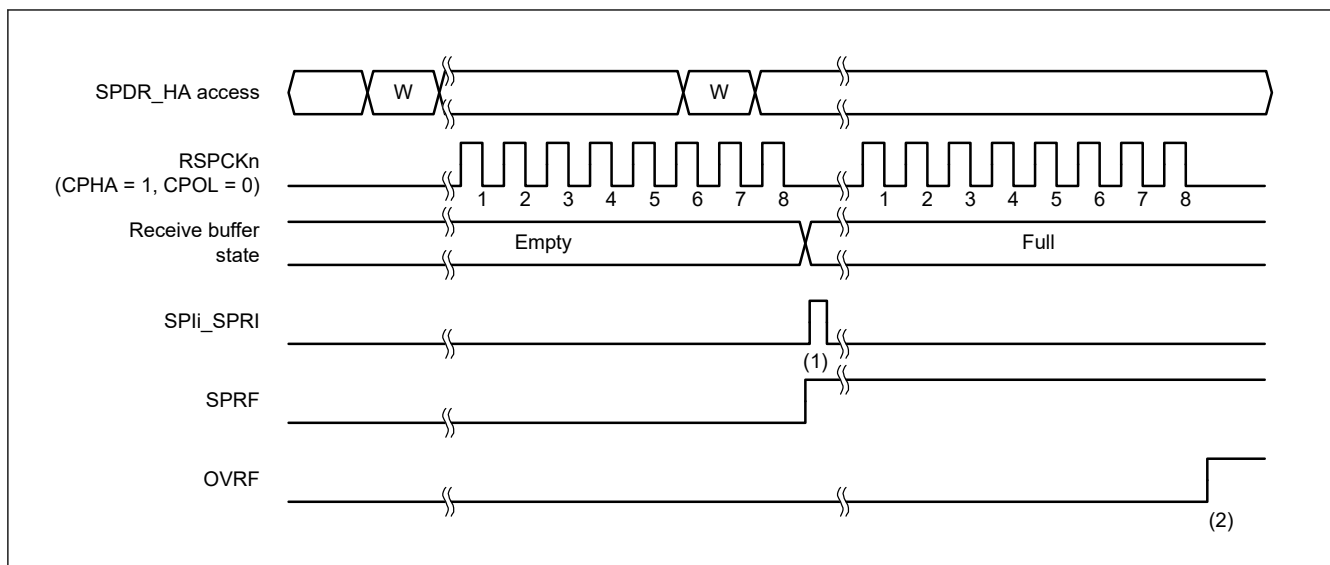
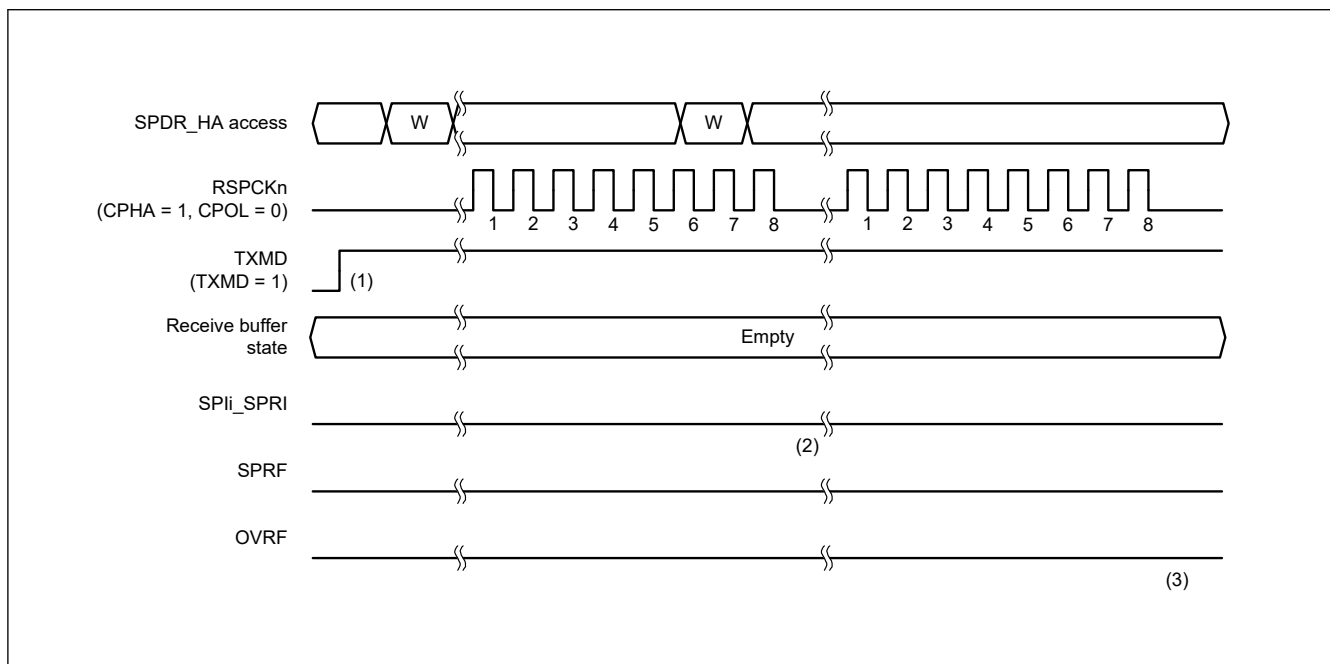
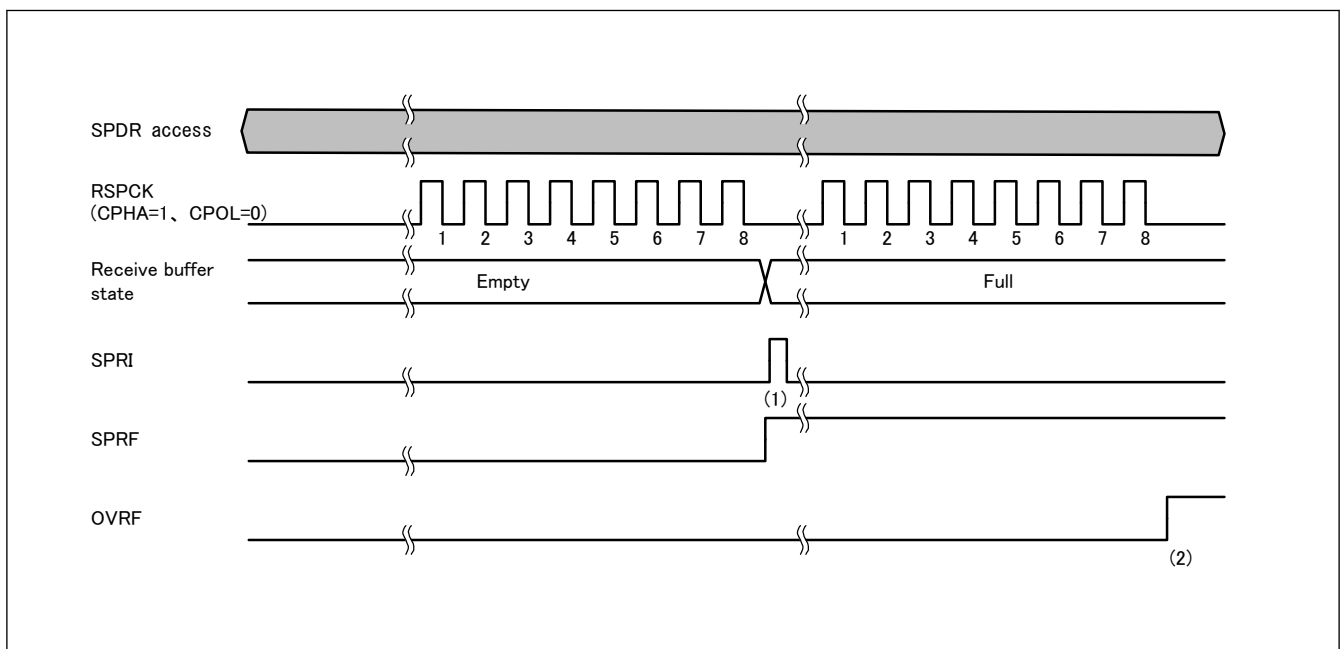

Figure 30.26 Operation example when SPCR3.ETXMD = 0 and SPCR.TXMD = 0
Figure 30.27 Operation example when SPCR3.ETXMD = 0 and SPCR.TXMD = 1
Figure 30.28 Example of Operation when MSTR = 0 and ETXMD = 1
Full-duplex synchronous serial communications or transmit operations can only be selected in the Communications Operating Mode Select bit (SPCR.TXMD) when the extended communication mode select bit (ETXMD) in the SPI control register 3 (SPCR3) is 0. The SPI operation is receive only in slave mode (SPCR.MSTR = 0) when the SPCR3.ETXMD bit is 1, because SPCR.TXMD bit does not affect the SPI operation. The register accesses shown in Figure 30.26, Figure 30.27, and Figure 30.28 indicate the condition of access to the SPDR/SPDR_HA register, where W denotes a write cycle.
Figure 30.26 shows an example of operation when the extended communication mode select bit (ETXMD) in the SPI control register 3 (SPCR3) is set to 0 and the Communications Operating Mode Select bit (SPCR.TXMD) is set to 0. In this example, the SPI performs an 8-bit serial transfer when SPDCR.SPFC[1:0] bits are 00b, the SPCMDm.CPHA bit is 1, and the SPCMDm.CPOL bit is 0. The numbers given for RSPCKn in the waveform represent the number of RSPCK cycles, such as the number of transferred bits.
The operation of the flags at timings (1) and (2) in Figure 30.26 is as follows:
Figure 30.27 shows an example of operation when the extended communication mode select bit (ETXMD) in the SPI control register 3 (SPCR3) is set to 0 and the Communications Operating Mode Select bit (SPCR.TXMD) is set to 1. In this example, the SPI performs an 8-bit serial transfer when SPDCR.SPFC[1:0] bits are 00b, the SPCMDm.CPHA bit is 1, and the SPCMDm.CPOL bit is 0. The numbers given for RSPCKn in the waveform represent the number of RSPCK cycles, such as the number of transferred bits.
The operation of the flags at timings (1) to (3) in Figure 30.27 is as follows:
Figure 30.28 shows an example of operation when the SPI master/slave mode select bit (MSTR) in the SPI control register (SPCR) is set to 0 and the extended communication mode select bit (ETXMD) in the SPI control register 3 (SPCR3) is set to 1. In the example in Figure 30.28, the SPI performs 8-bit data serial transfer with the settings of SPFC[1:0] in the SPI data control register (SPDCR) = 00b, CPHA in the SPI command register (SPCMD) = 1, and CPOL in SPCMD = 0. Numbers under the RSPCK waveform show the number of RSPCK cycles (number of transfer bits).